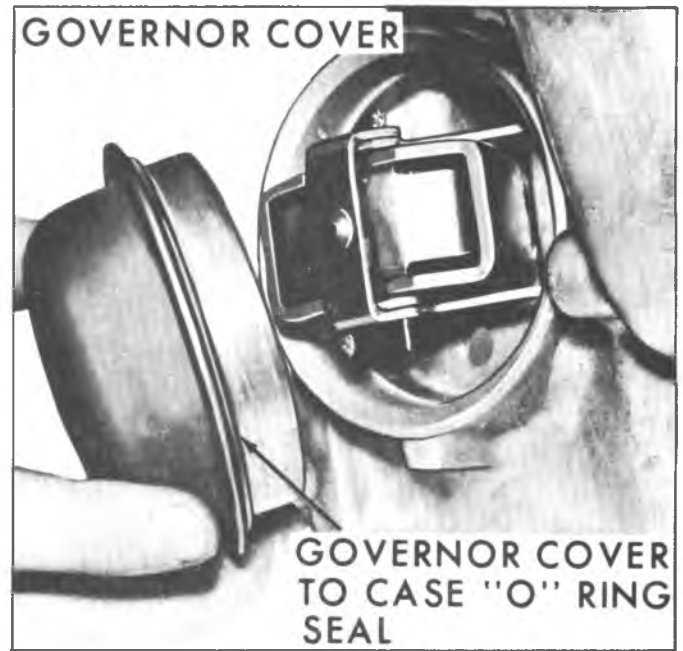
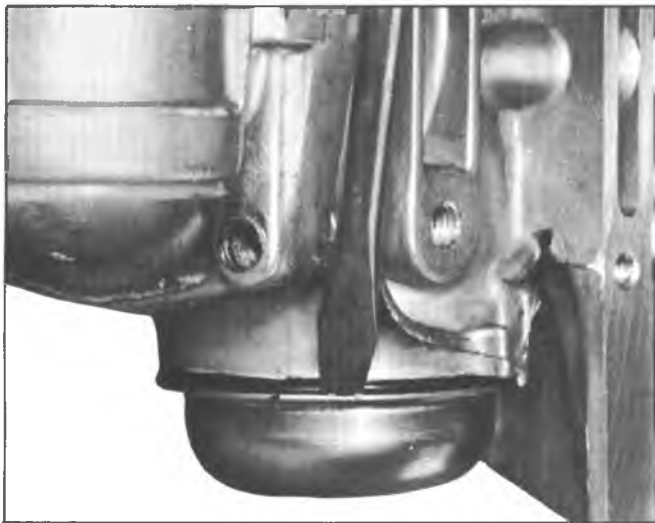

Fig. 7M--Governor Cover and "O" Ring Seal
Fig. 6M--Removing Governor Cover
7. Using a screwdriver and hammer, gently tap along governor cover lip (fig. 6M), remove governor cover and "O" ring seal (fig. 7M). Discard seal.